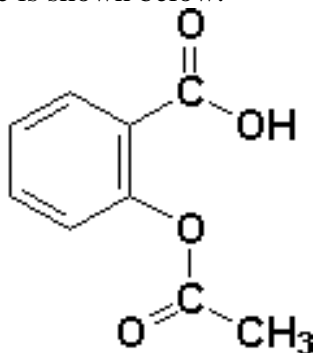

Figure 1
11. Use a rubber band to fasten the capillary tube to the Temperature Probe. The tip of the tube should be even with the tip of the probe. Use a utility clamp to connect the Temperature Probe to a ring stand. If necessary, place the probe in a split stopper or a cork to secure it in the clamp (see Figure 1).